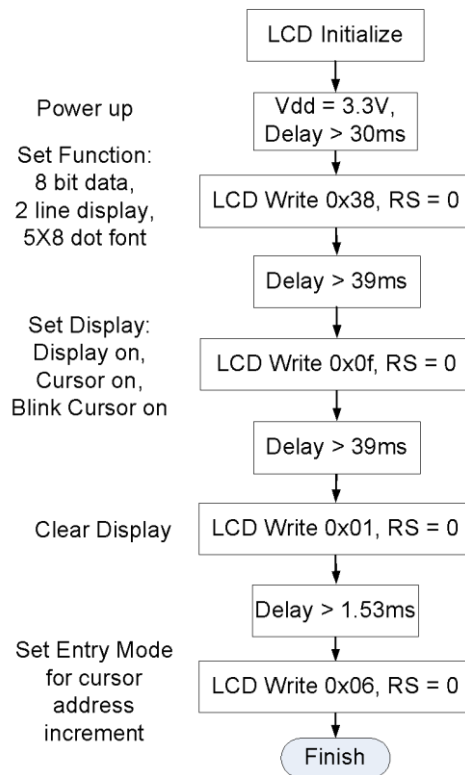

Figure B.2. Control flow diagram for the LCD initialization.
- a. Initialize the LCD using the recommended sequence of instructions shown in the control flow diagram Fig. B.2. to write specific codes to the LCD at specified intervals.